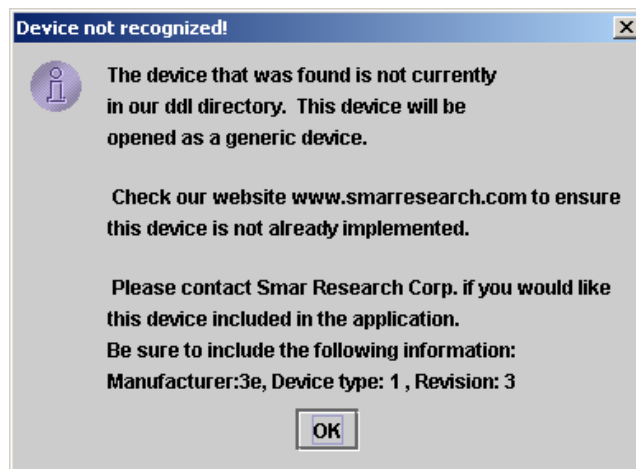

Fig. 17 – Device Not Recognized Message
When connecting to a device that is not currently loaded into DDCON 100, a message similar to the one in Fig. 17 will be displayed. The device can still be configured as a generic device, but all proprietary menus, commands and parameters will not be accessible. Receiving this message can indicate either the device driver is simply not loaded into your copy of DDCON 100, or that the device driver is not yet supported by DDCON 100. Devices which are not currently supported can be requested. Before requesting the addition of a device driver, be sure to check www.smarresearch.com for the latest updates and device driver downloads as this device driver may already be available. If the device is not listed in your device drivers list or on the www.smarresearch.com website, you may request the addition of the device by following the procedure below:
1. Copy the Manufacturer, Device Type and Revision codes as shown in the “Device not recognized” window. (see example in Fig. 17: Manufacturer = 3e, Device Type = 1, Revision = 3)